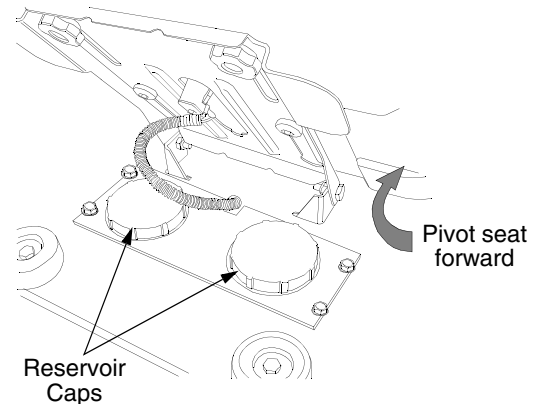

Figure 21
- Clean the reservoir caps and the area around the caps to prevent debris from contaminating the transmission oil. Refer to Figure 21.